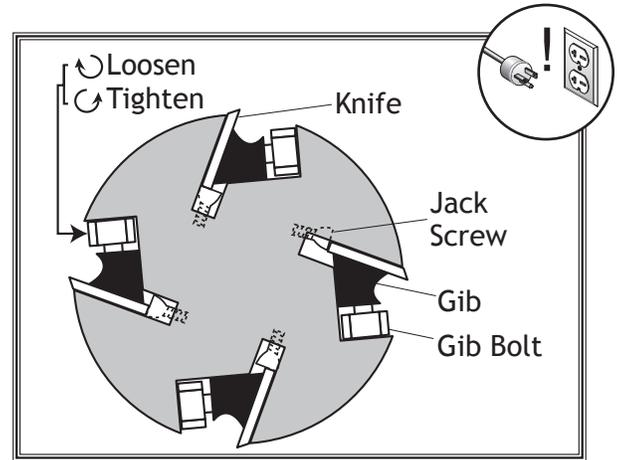

Figure 31. Cutterhead profile diagram.
5. Loosen cutterhead gib bolts (see **Figure 31**), starting in the middle, and alternating back and forth until all gib bolts are loose, but not falling out.